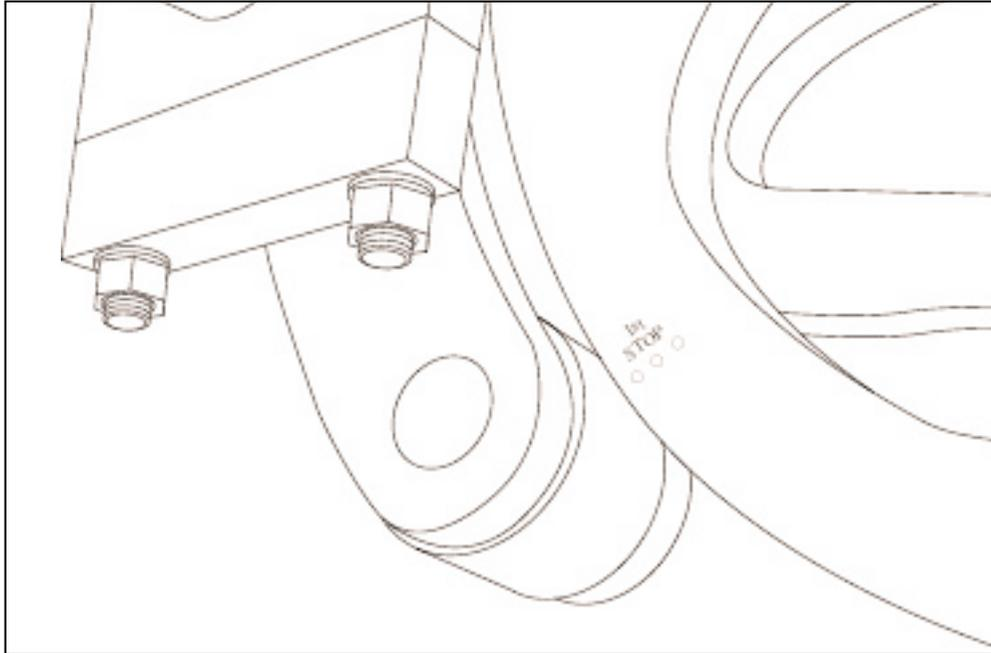

Figure 4.18 "FIRST STOP". (R.H. side of machine)
- 4.2.2 Run machine to "first stop" (see figure 4.18)